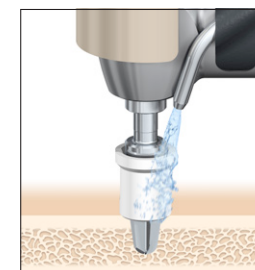

Fig.13: Guide drill with spacer
3. **Set the drill unit to 2000 rpm with coolant. Use the drill indicator and abundant irrigation during all drilling procedures.** Begin drilling with the conical guide drill with the 3 mm spacer at 2000 rpm (Fig.13).